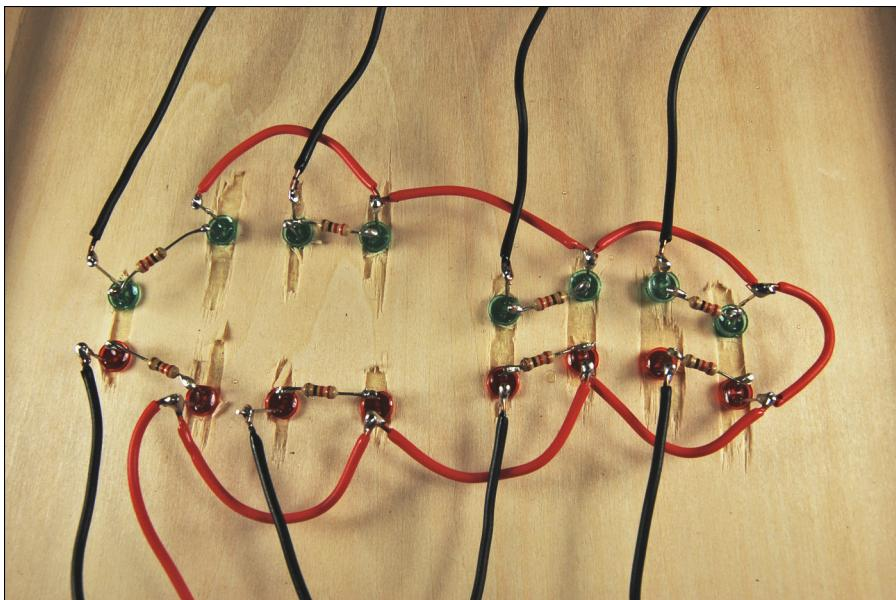

Figure 3-19:
11. Connect and solder a 30 cm length of 20 AWG black wire to the remaining short LED lead on each pair of LEDs, as shown in Figure 3-19.